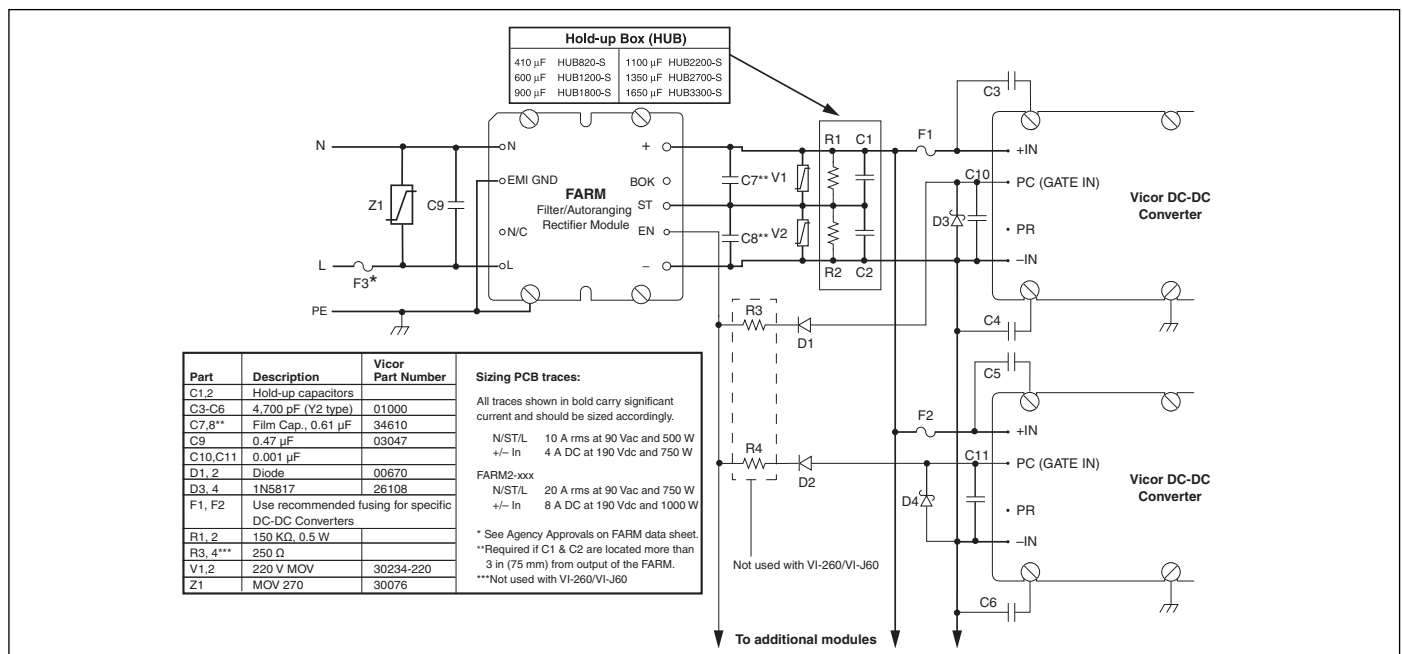

Figure 8-3 — Offline power supply configuration
**Strap (ST) Pin.** In addition to input and output power pin connections, it is necessary to connect the Strap pin to the center junction of the series hold-up capacitors (C1, C2, Figure 8-3) for proper (autoranging) operation. Metal-oxide varistors, V1 and V2 provide capacitor protection. The bleeder resistors (R1, R2, Figure 8-3) discharge the hold-up capacitors when power is switched off. Capacitors C7 and C8 are recommended if the hold-up capacitors are located more than 3 inches (75 mm) from the FARM output pins.